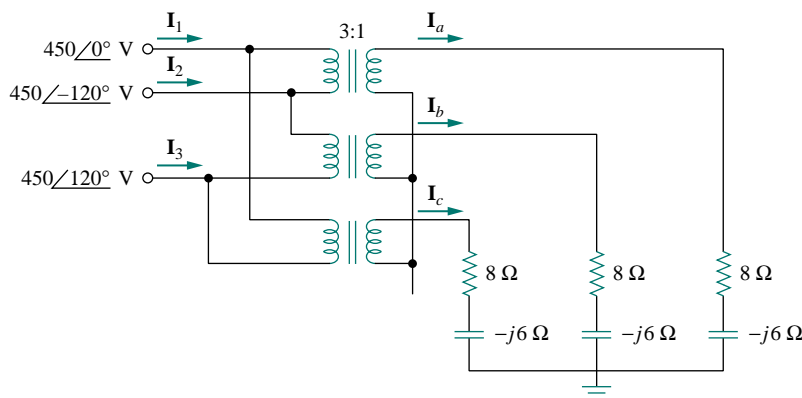

Figure 13.119 For Prob. 13.54.
- 13.54** Figure 13.119 below shows a three-phase transformer that supplies a Y-connected load.